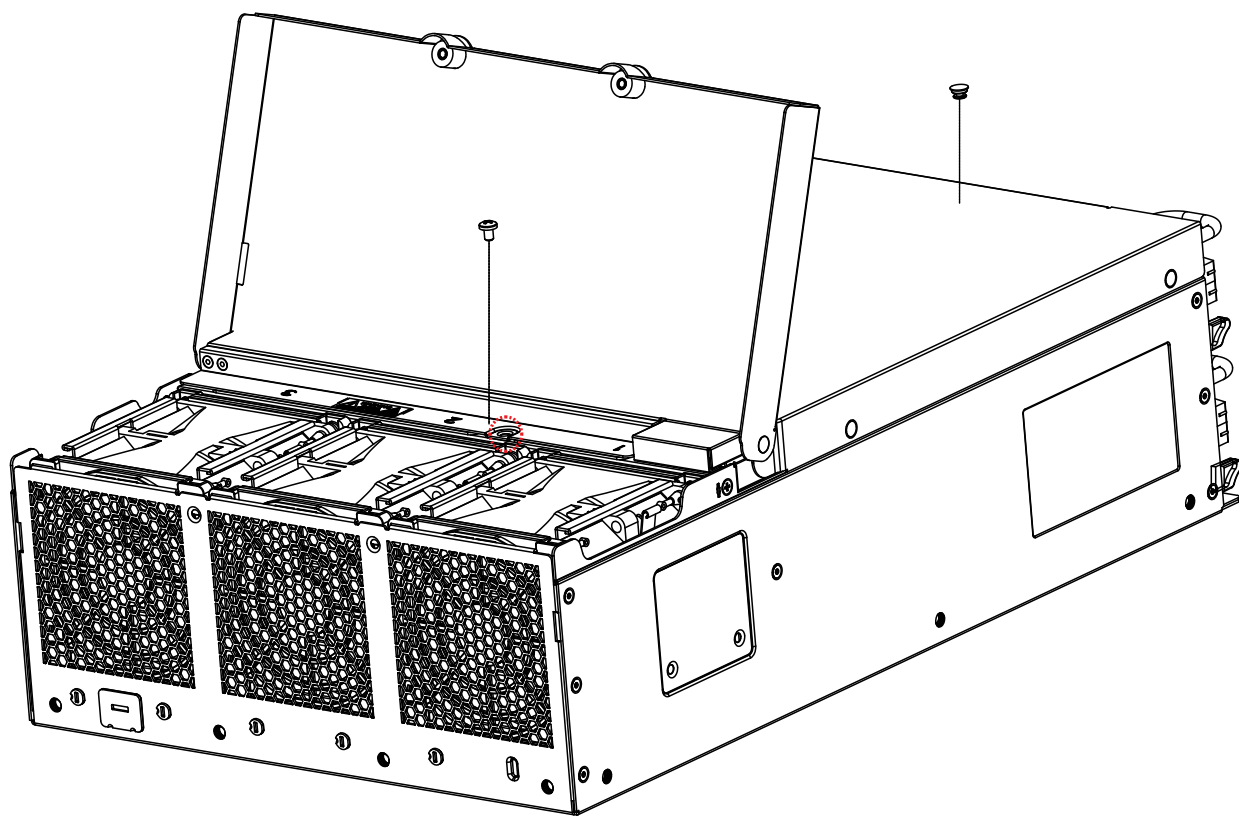

Figure 2-2. Open Fan Cover to Access Fans, Filters, and Screw
2. Remove one screw on top of the system cover near the I/O panel. See Figure 2-2.